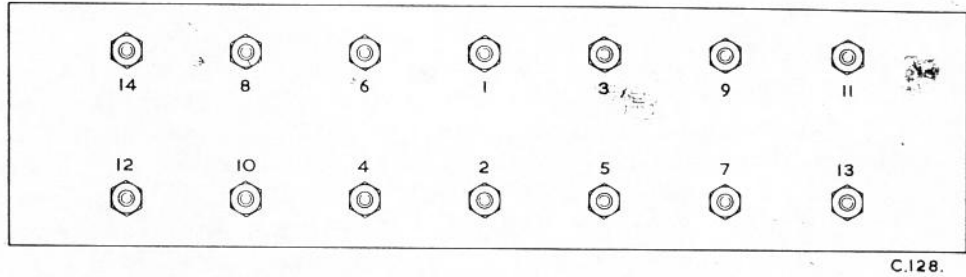

Fig.20 Sequence for tightening or loosening cylinder head nuts.
10. Use the special spanners supplied in the tool kit to remove the sparking plugs and the fourteen cylinder head retaining nuts; slacken these in the sequence shown in Fig.20, then remove the nuts and washers carefully and ease the cylinder head off the studs, ensuring that the push rods remain in position in their respective tappets; the rods may be damaged if caught in the head. Mark the push rods to indicate their sequence and position, then twist the rods to free them from the tappet bodies and withdraw them.
3. Fit the washers then screw on and "nip" the fourteen cylinder head retaining nuts. Tighten each nut one sixth of a turn at a time in the sequence shown in Fig.20 until all nuts are tightened fully. Set the valve clearances as described on page 41.